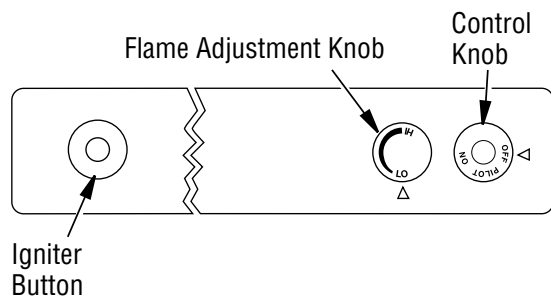

Figure 43 - Control Knob and Igniter Button Location (Shown as Supplied, No Control Options)
4. Press in and turn control knob clockwise ↻ to the OFF position (see **Figure 43**).
5. Wait five (5) minutes to clear out any gas. Then smell for gas, including near the floor. If you smell gas, STOP! Follow “B” in the safety information, **Page 19**. If you don’t smell gas, go to the next step.
6. Press in and turn control knob counterclockwise ↻ to the PILOT position. Press in control knob for five (5) seconds (see **Figure 43**).